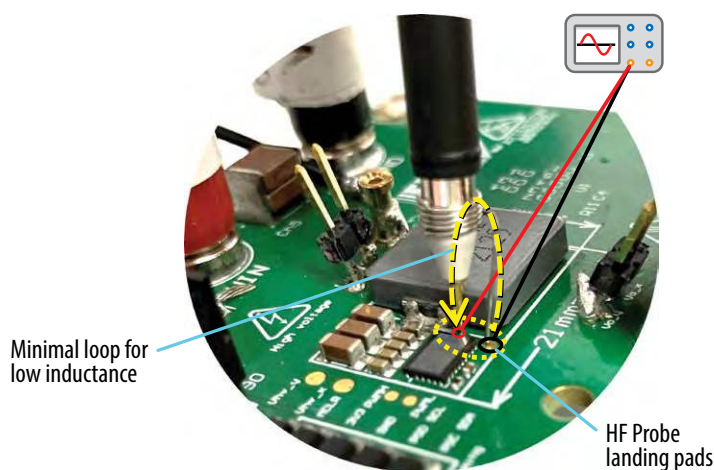

Figure 7: Recommended method to measure the switch-node measurement voltage waveform
- **SW-GND**: Switch-node voltage measurement (**TP7** & **TP9**). See figure 7 for recommended method to measure the switch-node